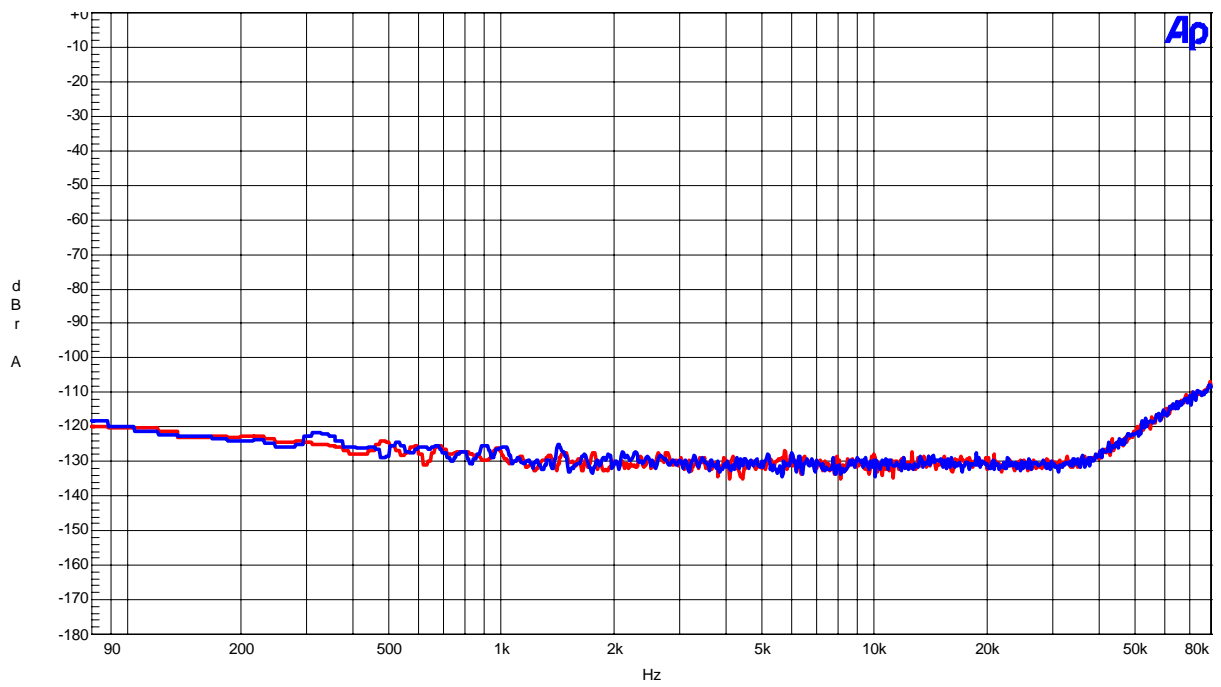

Figure 30. FFT(noise floor)
- Figure 30. FFT (noise floor)